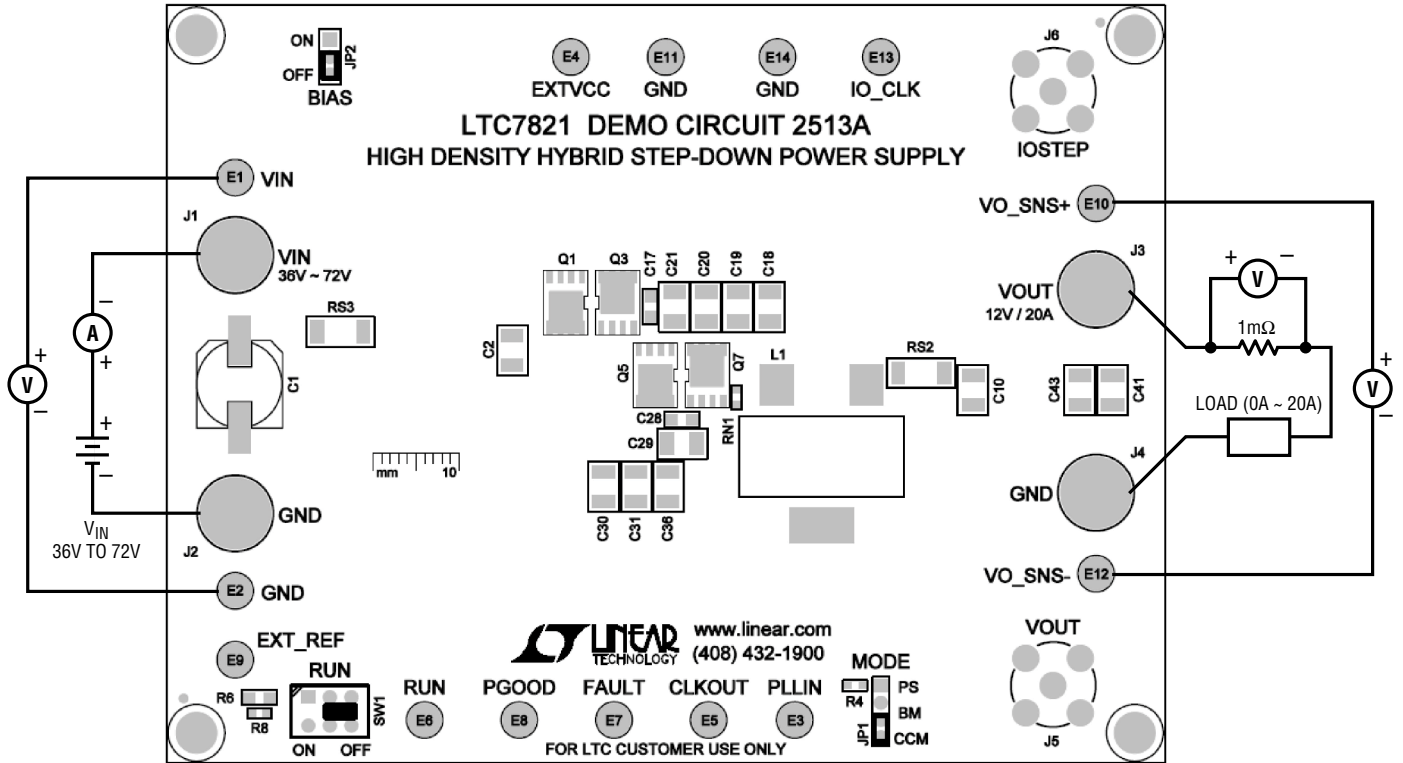

Figure 1. Proper Measurement Equipment Setup
Demonstration circuit 2513A is easy to set up to evaluate the performance of the LTC7821. Refer to Figure 1 for the proper measurement equipment setup and follow the procedure below.
2. Connect the output loads between V_{OUT} and GND (Initial load: no load). Refer to Figure 1.